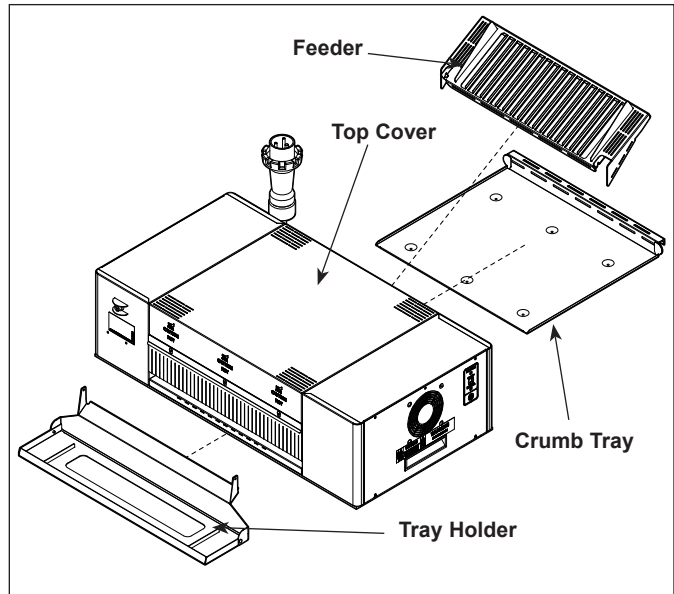

Figure 4. HRT-5H Components
1. When the unit is plugged in, press and hold the **MENU** button (Figure 4) for five seconds. The control panel displays "Heater A" The display shows the setpoint, operating current, and SSR Duty cycle.
2. Use the **LEFT** and **RIGHT** arrow buttons (Figure 4) to scroll through the settings, which appear in the following order:
3. To change a setting, press the **OK** button and then use the **LEFT** and **RIGHT** arrow buttons to adjust as needed. Press the **OK** button again to save the changes. See Figure 4.
2. Put on neoprene gloves. Remove the Bun Feeder, Crumb Tray, and Tray Holder, and Tray (Figure 4).